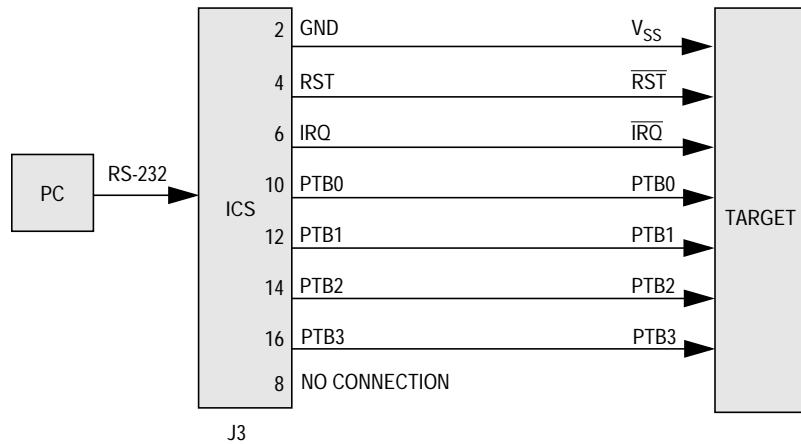

Figure 2. MC68HC908JL/JK MON08 Connections
2. Connections (see Figure 2):